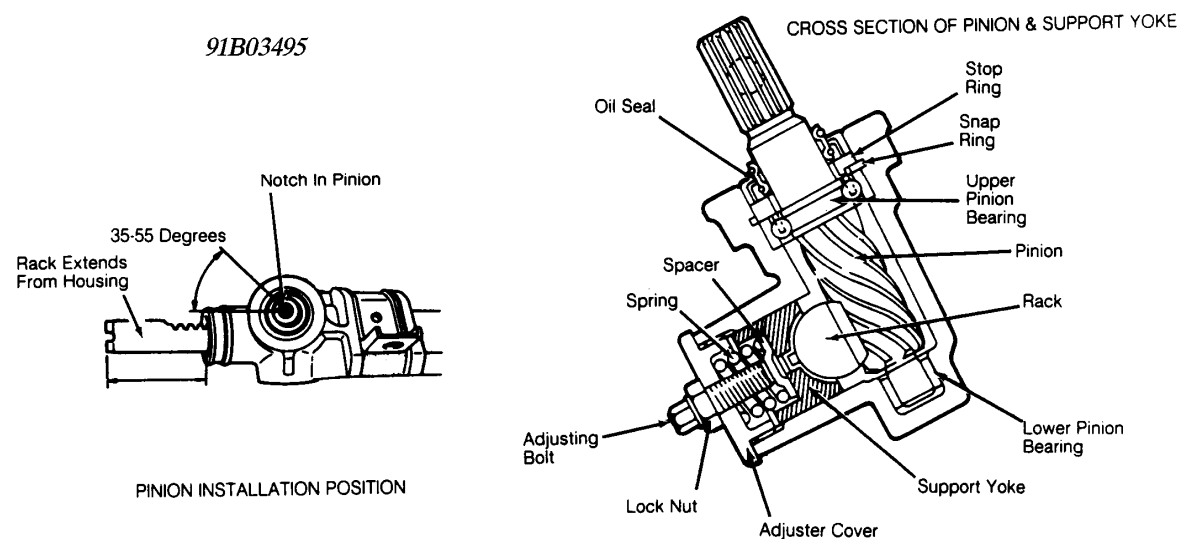

Fig. 2: Removing & Installing Rack Components
2. If previously removed, install a new lower pinion bearing using a bushing installer or a piece of wooden dowel stock. Carefully insert non-toothed side of rack into left end of rack housing, with rack teeth facing pinion bore. Position rack in housing so rack protrudes 2.4" (62 mm) from the left side of housing. Install pinion and upper bearing assembly so that when bearing is seated, notch (for "U" joint clamp bolt) in pinion splines forms a 35-55 degree angle with the centerline of the housing. See Fig. 2.